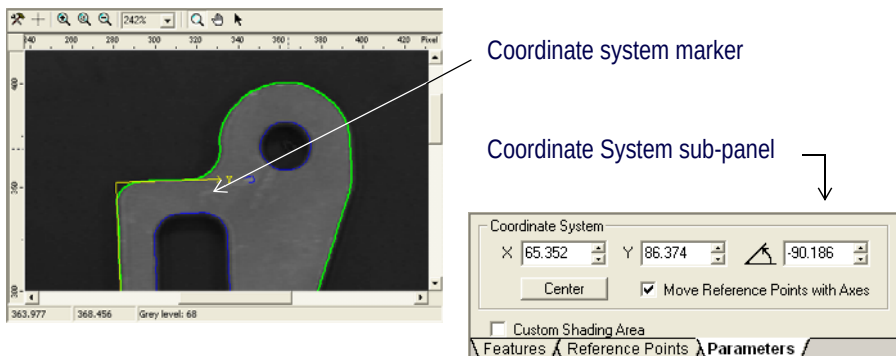

Figure 92 Adjusting the Position and Orientation of the Model Coordinate System
3. Use the mouse to position the coordinate system marker (yellow axes) over the object, as shown in Figure 92.